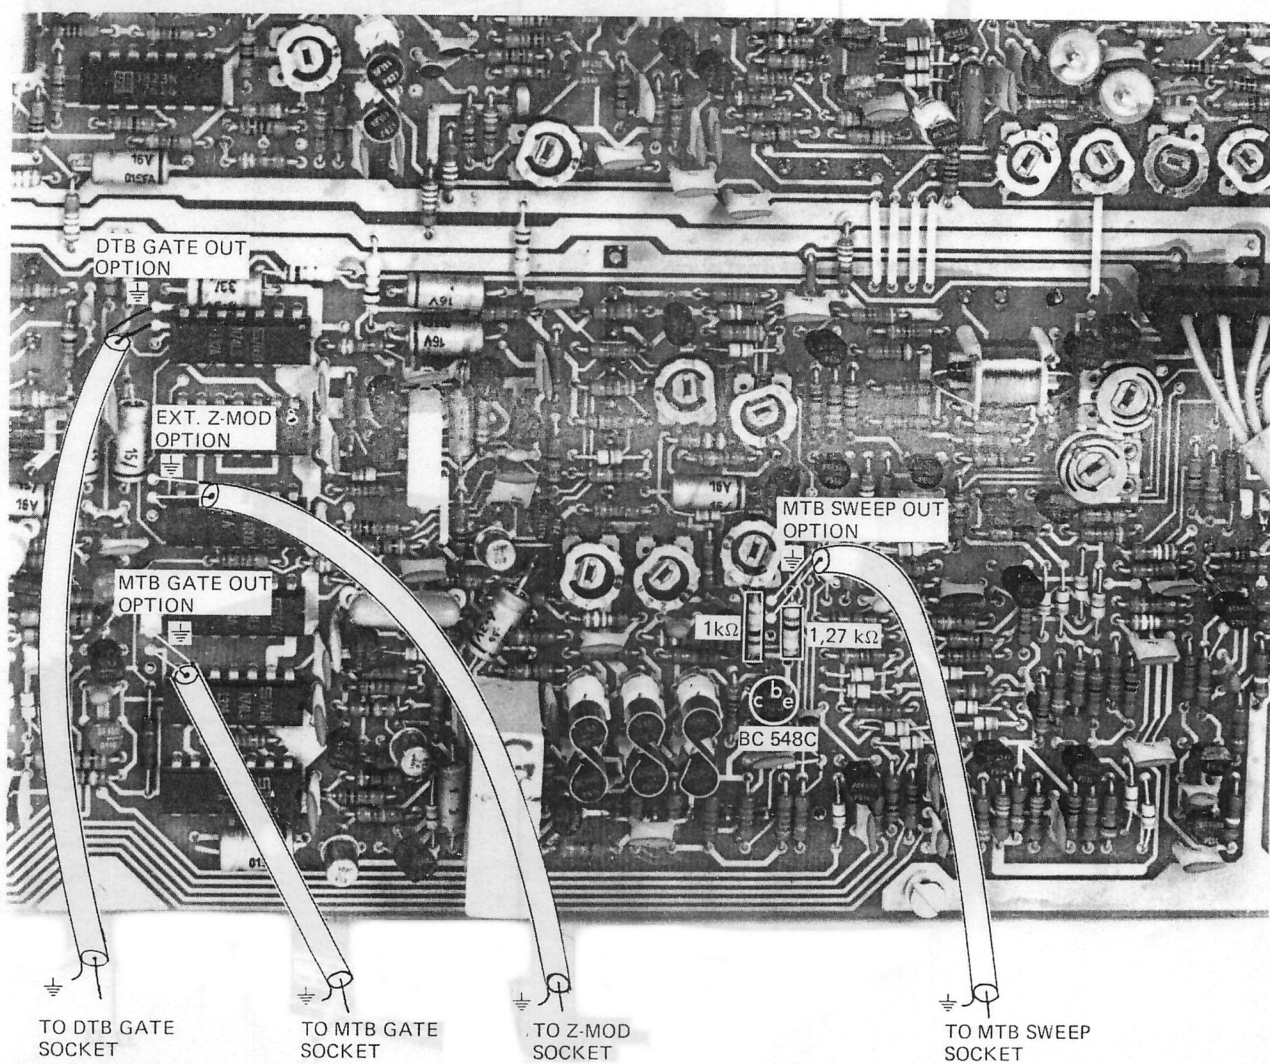

Fig. 3.37. Mounting the components and the cables
Connect one end of the coax. cable to the points indicated in Fig. 3.37 and the other end to the BNC connector which has been mounted on to the rear of the oscilloscope as described in section 3.6. Make sure that the coaxial cable is also earthed at the BNC connector end.
- Fit the resistors as indicated in Fig. 3.37.
- Fit the transistor as indicated in Fig. 3.37.
- Connect one end of the coaxial cable to the points indicated in Fig. 3.37 and the other end to the BNC connector.